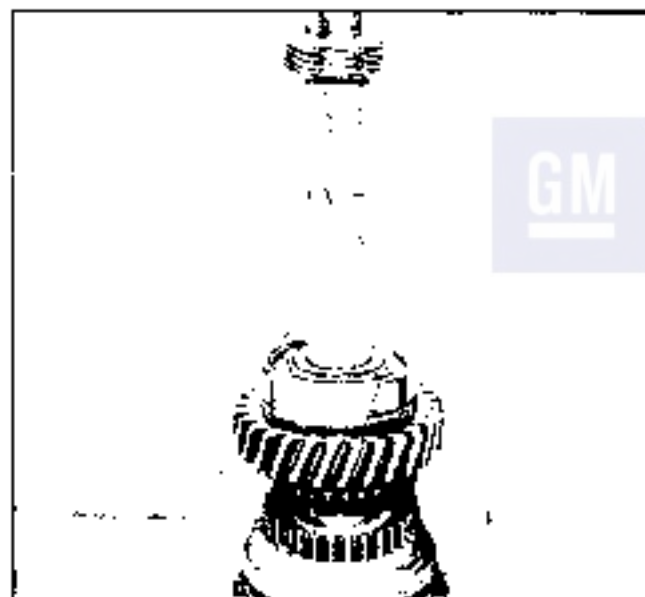

Fig. 7C-11 Removing Rear Bearing and First Speed Gear
12. Remove the 1st and 2nd synchronizer snap ring from mainshaft and press synchronizer assembly, 2nd speed blocker ring and second speed gear off end of mainshaft (Fig. 7C-12).